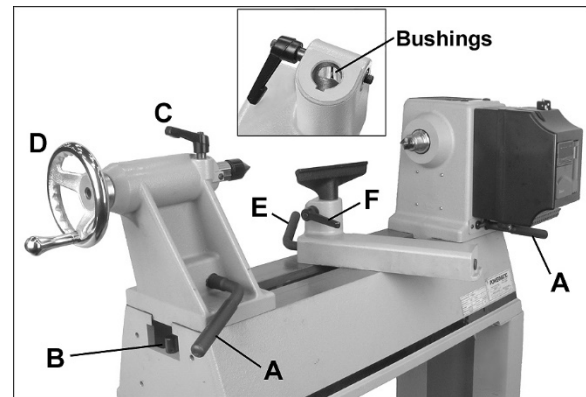

Figure 8-1: headstock, tailstock, tool support
To slide headstock or tailstock, loosen locking handle (A, Figure 8-1) until head/tailstock can slide freely. When head/tailstock is positioned, swing locking handle until it tightens securely.
To remove headstock, tailstock or tool support base from bed, unscrew and remove stud at either end (B, Figure 8-1). NOTE: After re-mounting these items on the Lathe, always insert stud.
For most spindle turning operations, the headstock will be positioned at left end of bed, and only the tailstock moved to accommodate the workpiece. Loosen locking handle (C, Figure 8-1) to advance or retract tailstock quill by rotating handwheel (D). Retighten handle (C) before operating lathe. Lock tailstock in position before operating.
Loosen locking handle (E, Figure 8-1) to slide support base forward or back, and angle it to the bed. Tighten locking handle securely before operating Lathe.
Loosen small handle (F, Figure 8-1). Make sure clamp bushings (inset, Figure 8-1) are spread apart sufficiently to accept tool support post.
Locking handles, such as C and F, Figure 8-1, can be rotated to more convenient position. Lift up on handle, rotate it on pin, then release it, making sure it seats on pin.